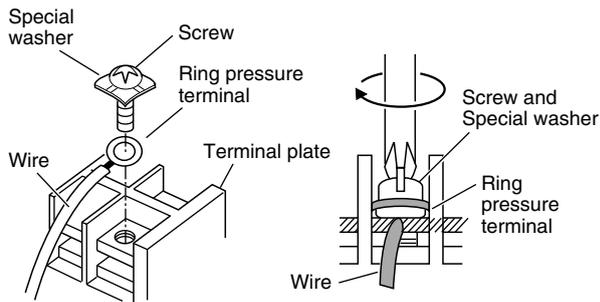

Fig. 5-6
- (2) Using a Phillips head screwdriver, remove the terminal screw(s) on the terminal plate.
- (3) Using a ring connector fastener or pliers, securely clamp each stripped wire end with a ring pressure terminal.
- (4) Put the removed terminal screw through the ring pressure terminal and then replace and tighten the terminal screw using a screwdriver. (Fig. 5-6)